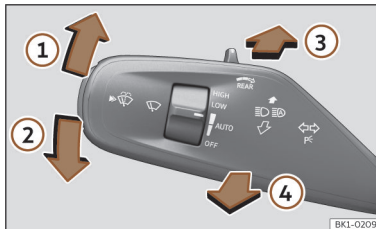

Fig. 103 Turn signal and main beam lever.
- From the neutral position, press the turn signal and main beam headlights lever forwards >>> **Fig. 103 ③**.
- **EITHER**: if main beam assist is on, pull the turn signal light and main beam headlights lever back >>> **Fig. 103 ④**.